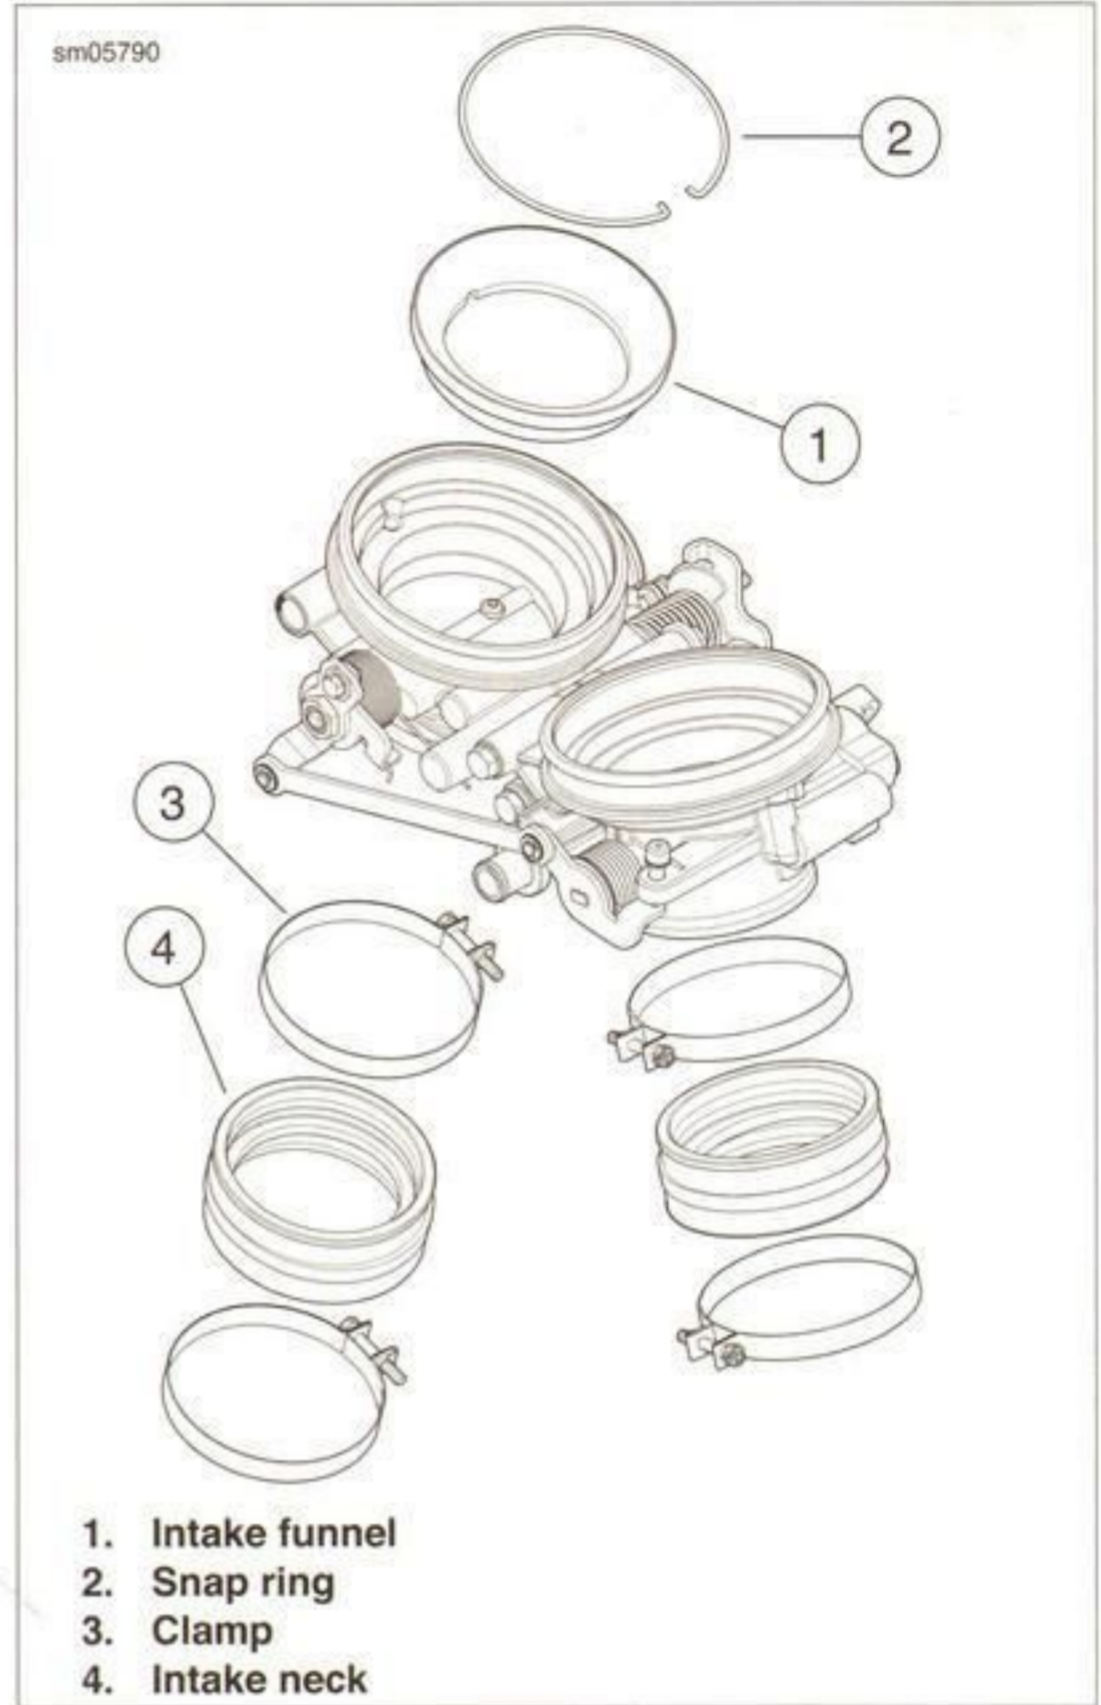
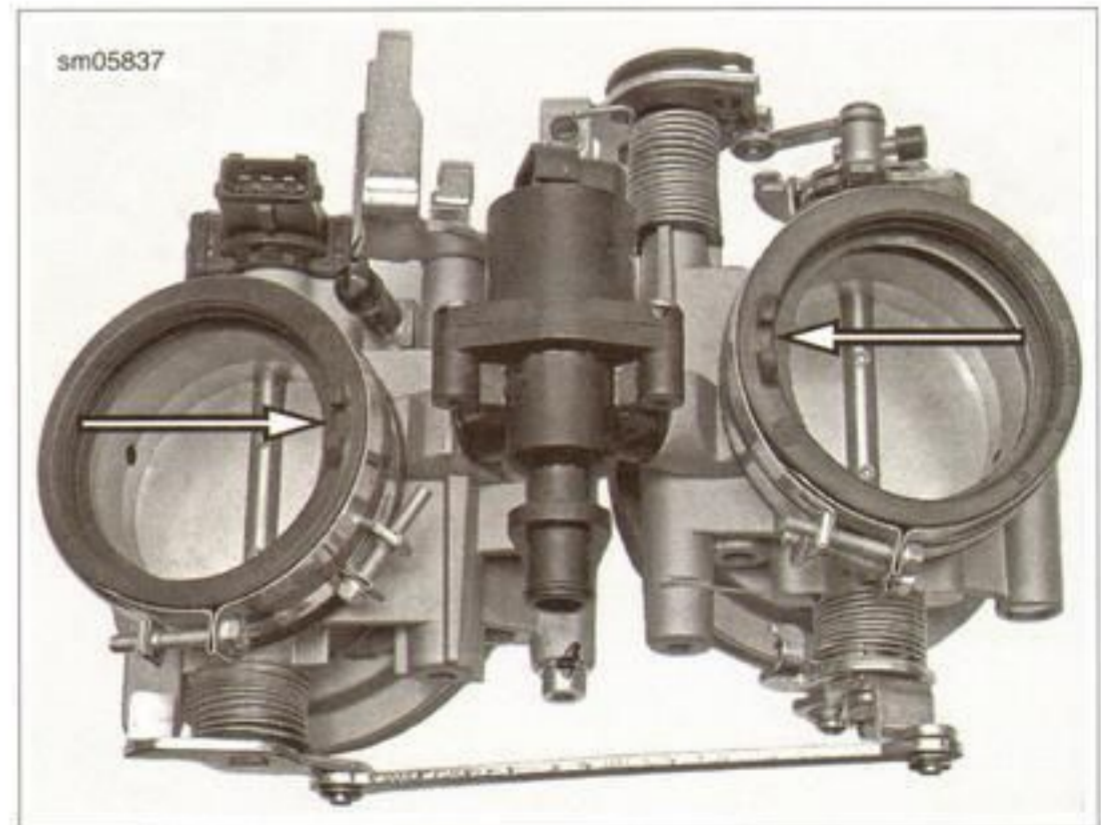

Figure 4-39. Throttle Body Assembly
Figure 4-40. Neck Tabs Over MAP Sensor Tubes
3. See Figure 4-39. If removed, replace the intake funnels (1) and snap rings (2).
4. Fit the intake necks (4) and the clamps (3).
5. See Figure 4-40. Rotate the intake neck tabs to fit MAP sensor tubes.